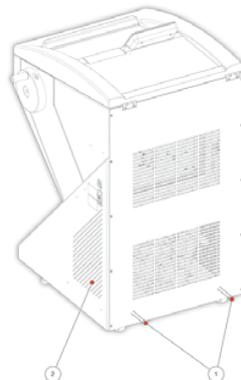

Fig 2
- The distance between the wall and rear panel is approx. 15 cm/ 6". For this, install the distance bolts (fig 2) (item 1).
- The suction vent areas on either side are kept free (fig. 2) (item 2).